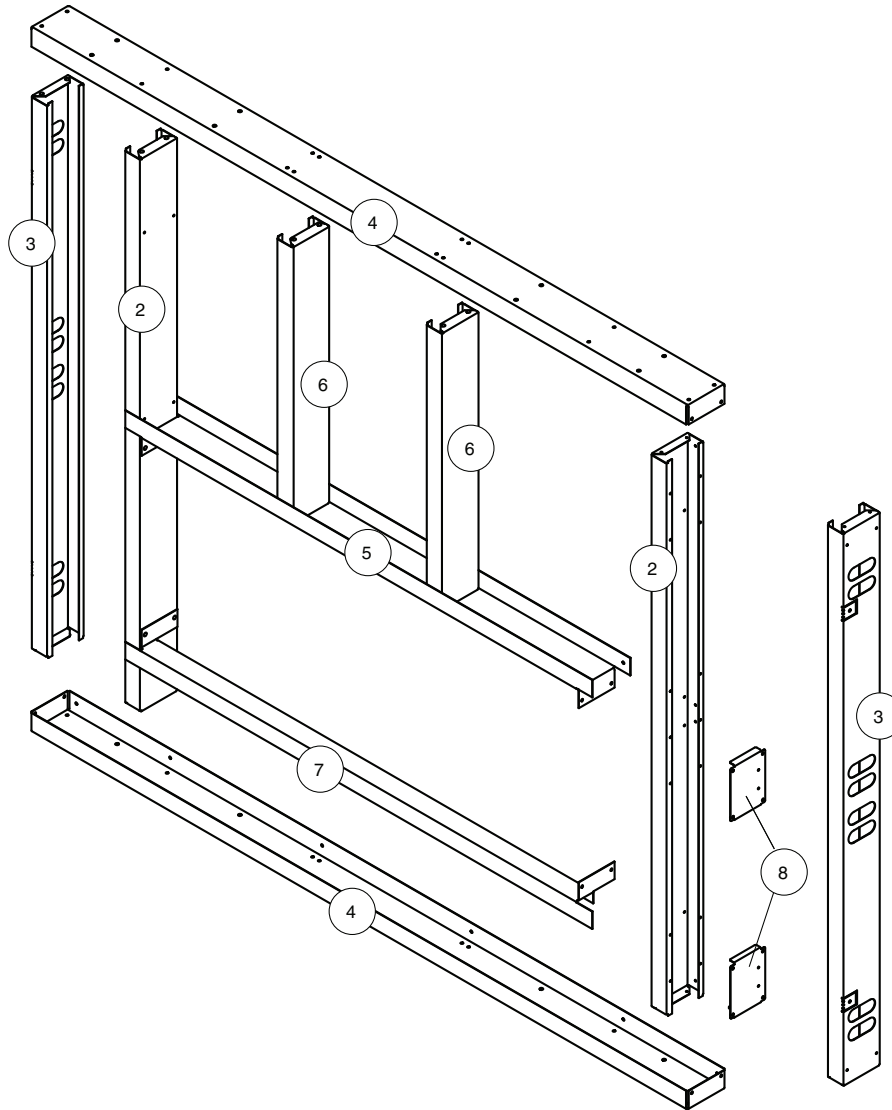
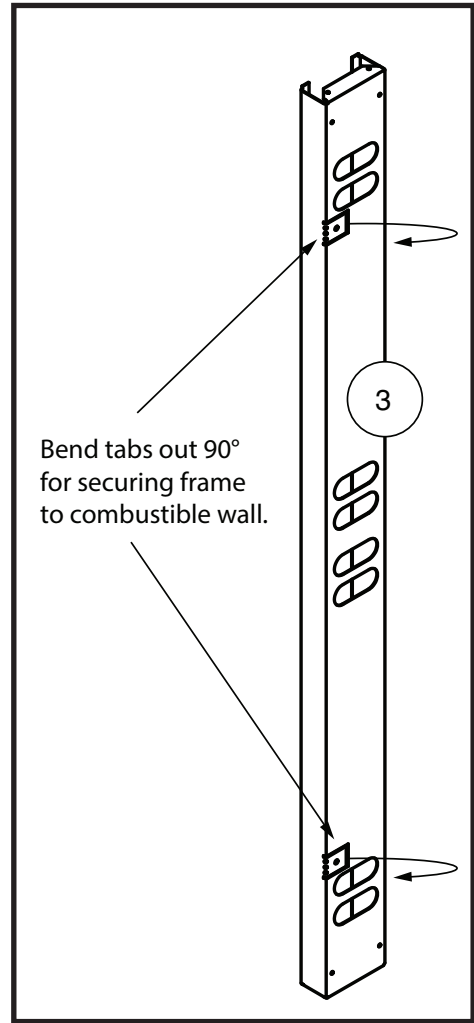

Figure 14: TCWS.38D2 Framing kit parts
Figure 16: Tabs
6. Position the Lower Cross Brace (#7) between the two side studs and about 6" from the lower ends of the side studs. Attach each end of the lower cross brace to the side studs with wafer screws. Position this brace so that the narrow vertical side is facing outward away from the fireplace as shown in Figure 14.
8. Place and attach the two Outer Side studs (#3) - tab side out (Figure 14 and Figure 16). - at each end of both the top upper/lower stud and bottom upper/lower stud.